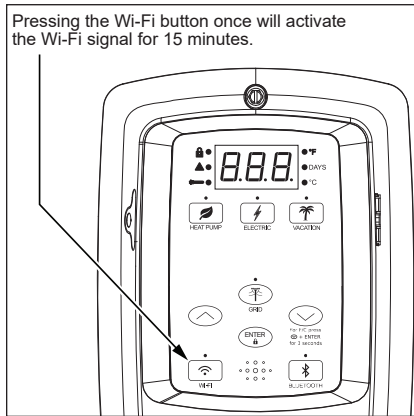

Figure 25 - Wi-Fi Control
- 1 To activate the Wi-Fi signal, press the Wi-Fi button once. The LED will blink on and off in 1/2 second intervals. Wi-Fi will activate pairing mode (Figure 25).